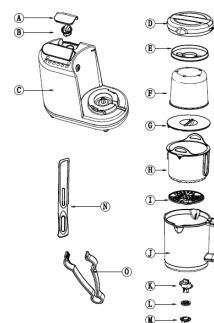

figure 1
**5.1. PARTS DESCRIPTION (figure 1)**